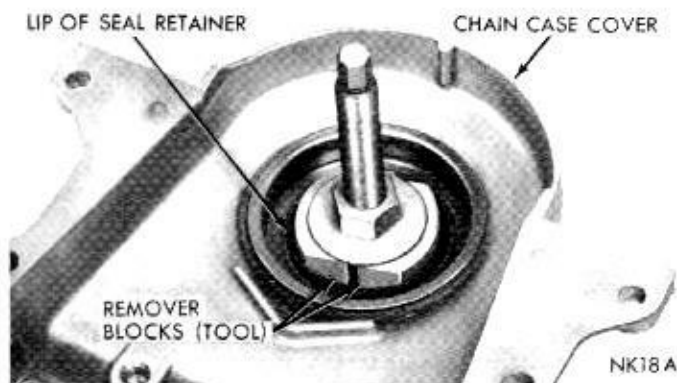
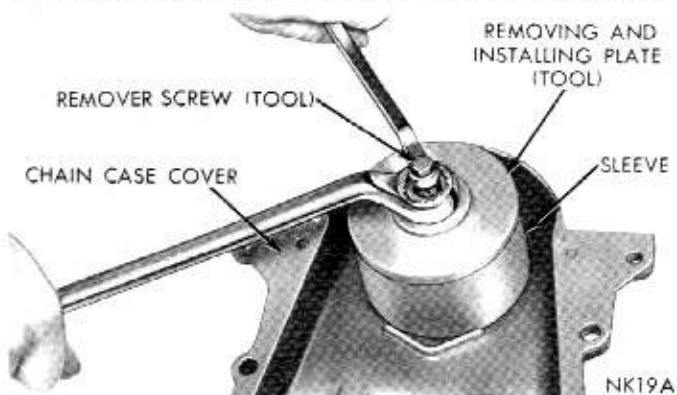

Fig. 22—Remover Blocks Expanded to Puller Position
Fig. 23—Removing Oil Seal
(1) Position remover screw of Tool C-3506 through case cover with inside of case cover up. Position puller blocks directly opposite each other, and force the angular lip between the neoprene and flange of the seal retainer.
(2) Place washer and nut on remover screw. Tighten nut, forcing the blocks into the gap to a point of distorting the seal retainer lip, (Fig. 22). This is important, remover is only positioned at this point.
(3) Place sleeve over the retainer and place removing and installing plate into sleeve.
(4) Place flat washer and nut on remover screw. Hold tool center screw and tighten tool lock nut to remove seal, (Fig. 23).
(5) Insert remover screw through removing and installing plate so that the thin shoulder will be facing up.
(6) Insert remover screw with plate through the seal opening (inside of chain case cover facing up).
(7) Place seal in the cover opening, with neoprene down. Place the seal installing plate into the new seal,